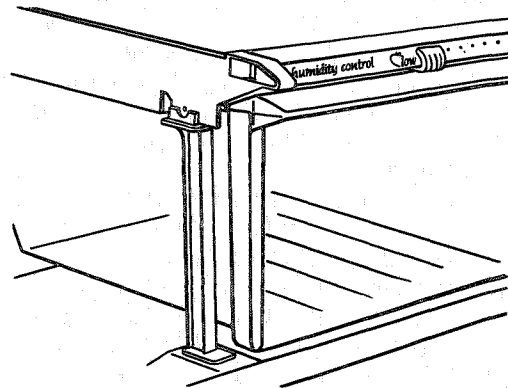

Figure 36
- j. Remove crisper from support which fits into recess at bottom center of refrigerator. See Figure 36.